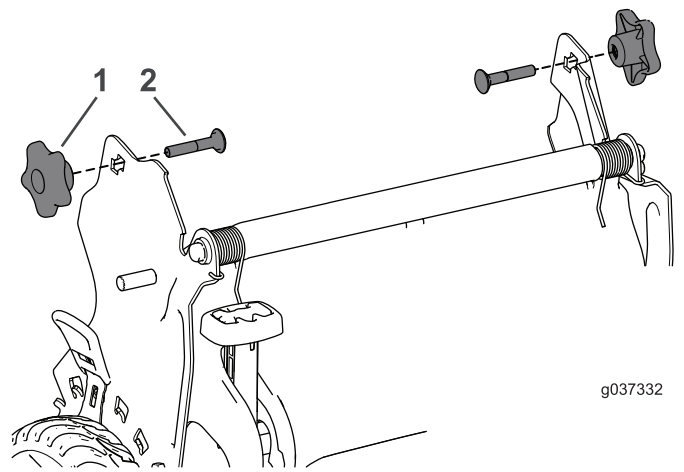

Figure 30
3. Insert the carriage bolt (with the bolt head toward the inside) through the handle bracket and the upper hole in the handle end. Ensure that the square edges of each carriage bolt fits into the upper or lower square hole in its related handle bracket (Figure 30).